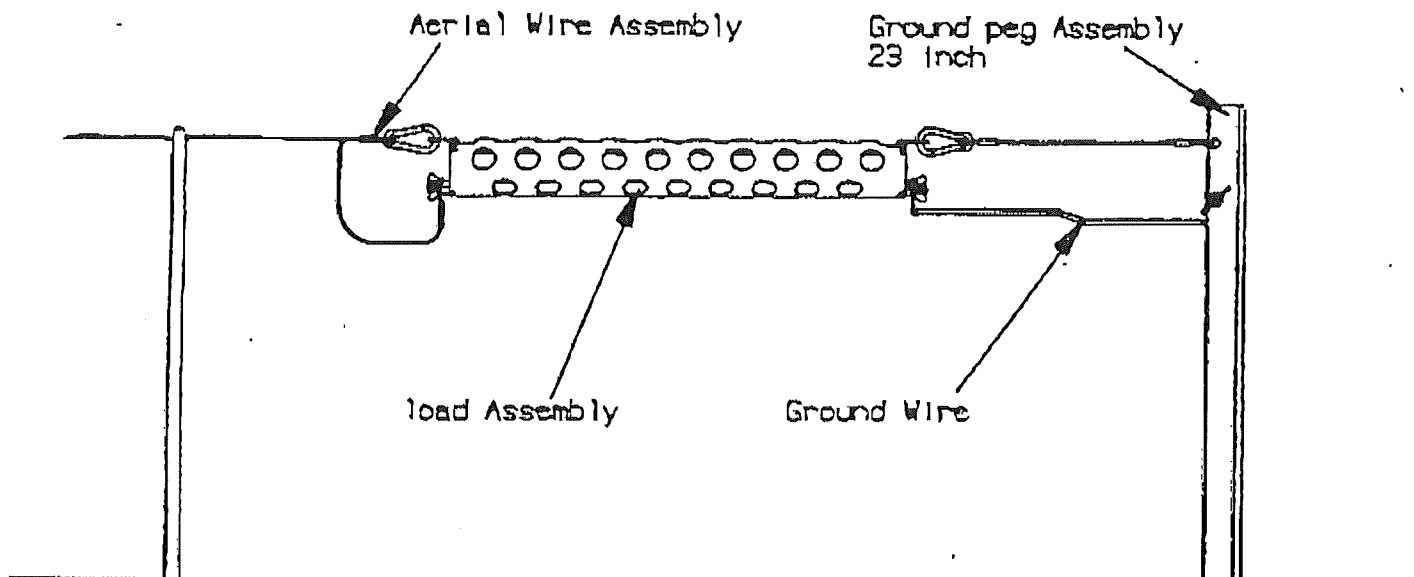

Figure 5-9. Beverage Configuration - Termination
- Step 12 Lift the element wire onto the support rod so that it rests in the groove. See Figure 5-9.